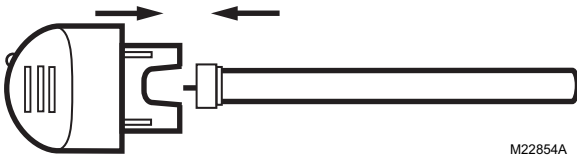

Fig. 6. Place lamp glass in lamp handle.
9. Insert the new lamp glass into the lamp handle by aligning the key and pushing straight together. See Fig. 6.